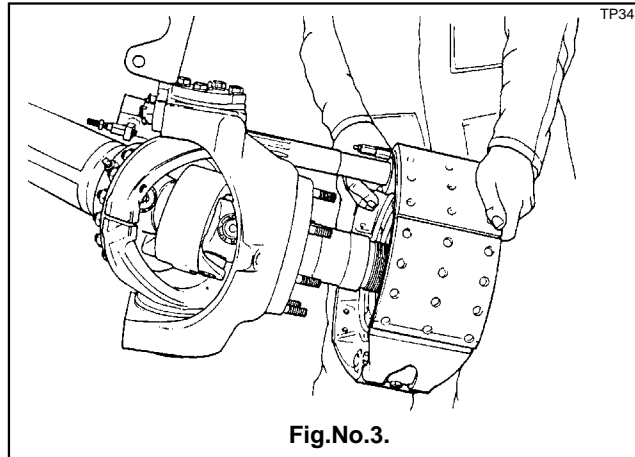

Fig.No.3.
4.8 Using a hide faced mallet, knock complete assembly from its register. Suitable lifting gear may be required to remove assembly and place on bench. See fig. no.3.